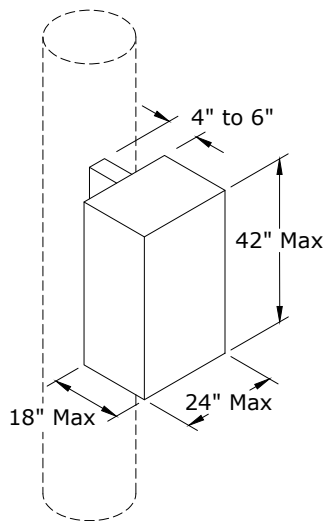
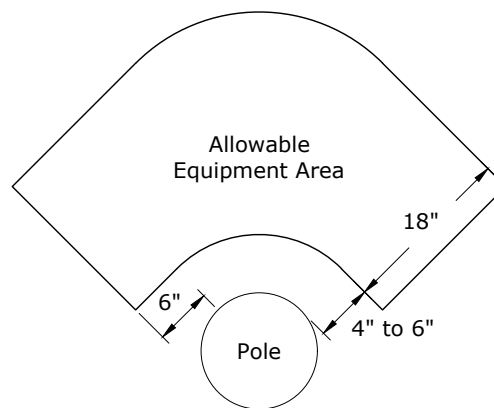

Figure 2: Allowable size of equipment below communication space.
Figure 3: Allowable equipment area below communication space.
- C. Equipment should be installed on the roadside of the pole. If this is not possible, other locations may be used with CPU's prior approval. Each piece of equipment must be no more than 42" high x 24" wide x 18" deep and must be installed below the communication space between 10 feet and 18 feet above groundline (see Figure 2). Climbing space must be maintained as specified in WAC 296-45-045. There shall be no more than two pieces of equipment for a total volume of 12 cu ft. The equipment must be between 4 inches and 6 inches off of the pole surface and must fit within one pole quadrant as shown in Figure 3. See Std. JU2 - Joint Use Pole Attachment Guidelines for required clearances. Meters, when used, must be padmounted at least 6 feet from the pole.